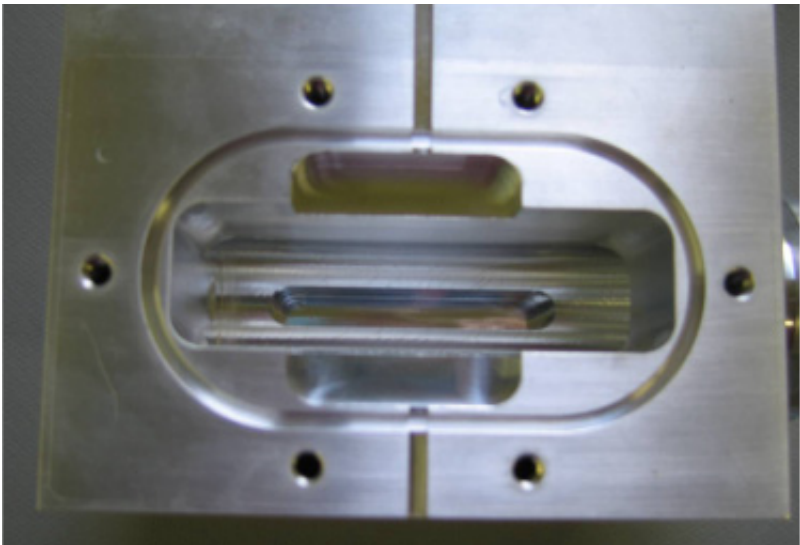

Figure 9: Inside of Spectrometer Body
10. If the inside of the spectrometer body appears to be dirty, clean it with a lint free wipe and Isopropyl alcohol (Figure 9: Inside of Spectrometer Body).